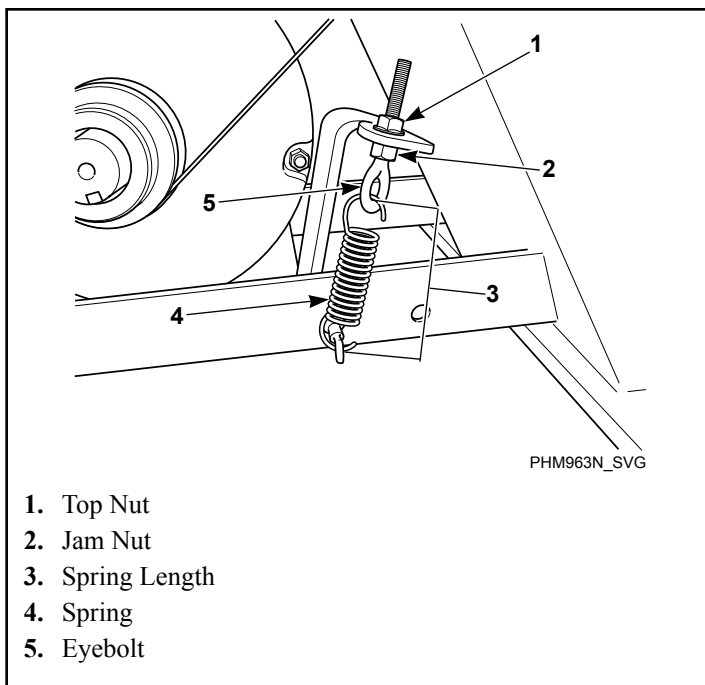

Figure 53
- **Frequency Gauge.** Tighten eyebolt top nut until the correct frequency (refer to *Table 6*) is obtained mid-span. Torque jam nut to spring bracket to 20.6 ± 2 ft.-lbs. Refer to *Figure 53*.
- **Tension Gauge.** Tighten eyebolt top nut until the proper belt gauge (refer to *Table 6*) is obtained mid-span. Torque jam nut to spring bracket to 20.6 ± 2 ft.-lbs. Refer to *Figure 53*.
- **Spring Length.** Tighten eyebolt top nut until the spring measures the correct distance between the hooks. Refer to *Table 42*. Torque jam nut to spring bracket to 20.6 ± 2 ft.-lbs. Refer to *Figure 53*.
- **Maintain Tension During Belt Removal.** If proper tension is achieved, tape the jam nut in place and loosen eyebolt top nut to release the belt. Replace belt and retighten eyebolt top nut back to jam nut position. Refer to *Figure 53*.